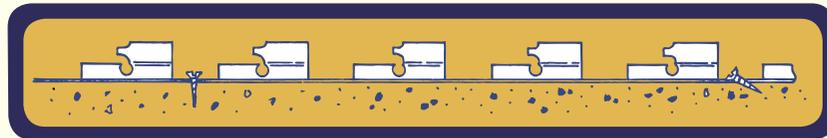

Figure 4c
- On concrete surfaces the plastic strapping may be attached by means of self-tapping concrete anchors or equivalent (Figure 4c). Alternatively, Easy Heat offers a low profile adhesive tape CKT-25 (1 1/4" wide and 25 feet in length), effective for bonding the plastic strapping to clean and smooth concrete surfaces. Please Contact Easy Heat (800/537-4732) for more information.